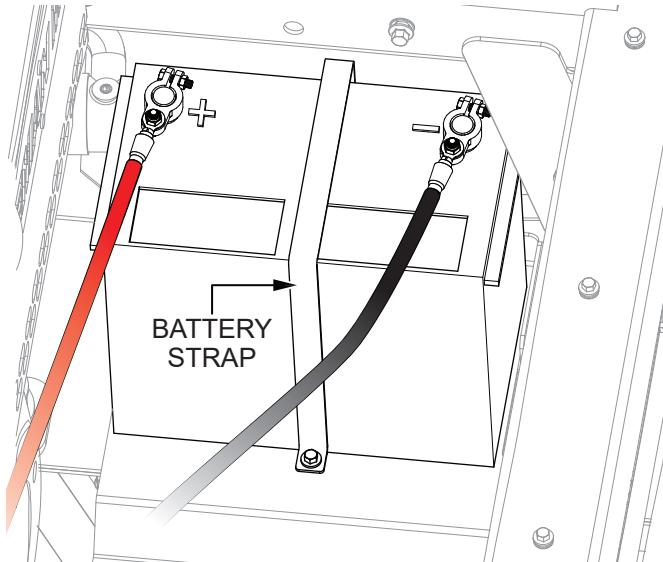

Figure 15. Battery Connections
1. Make sure the battery is properly secured in the battery tray with the **battery strap** (Figure 15).
2. Connect the positive (RED) battery cable to the positive (+) terminal on the battery, then connect the negative (BLACK) battery cable to the negative (-) terminal. See Figure 15.